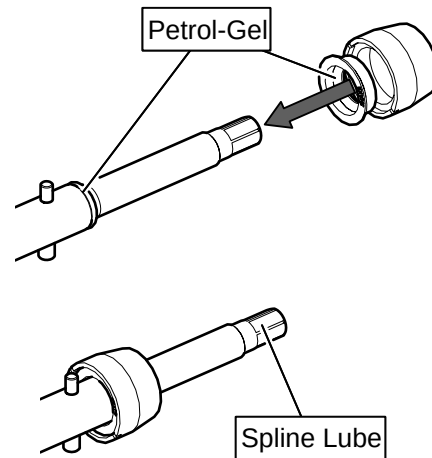

Figure 3-6 Rear Seal Assembly
- B. Install the stainless steel rear seal adapter into the rear seal dry (without lubricant). Lubricate the inside surface of the rear seal adapter and install it onto the auger shaft. DO NOT lubricate the outside of the rear auger seal (Fig. 3-6).